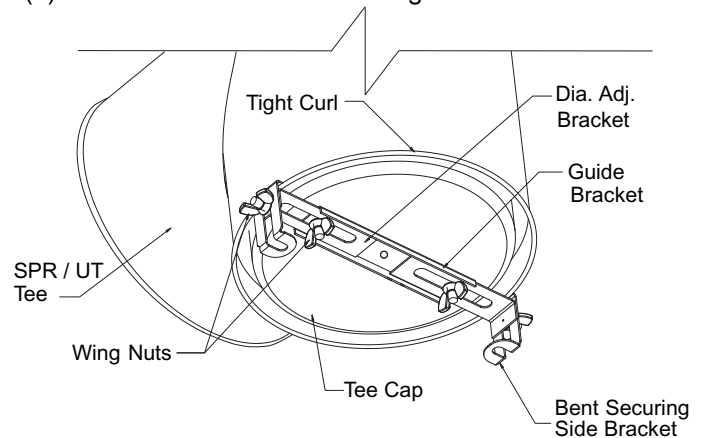

Figure 4 - Bottom View of SPR/UT Tee
3. Position the Diameter Adjustment Brackets and Securing Side Brackets so that the Securing Brackets fit onto the tight curl on the bottom edge of the Tee or a straight length (see Figure 4).
4. Hold the Tee Cap and Retainer in place and tighten all Wing Nuts (4). Bend toward center Securing Brackets.